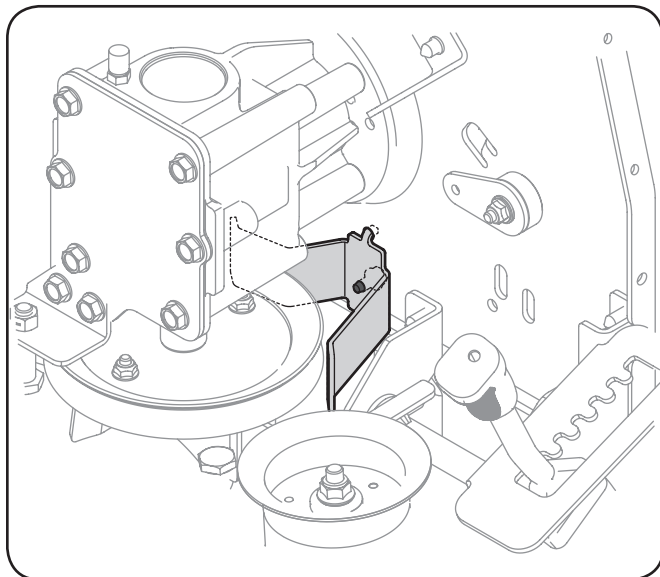

Figure 6-7
3. Remove the belt keeper secured to the vertical portion of the mowing deck attachment by removing the hex screw that secures it. See Figure 6-7.